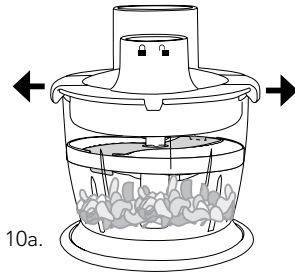

FIG. 10a.
10. Remove the lid by pulling out the locking clips on either side of the lid as illustrated in Fig. 10a. and 10b.